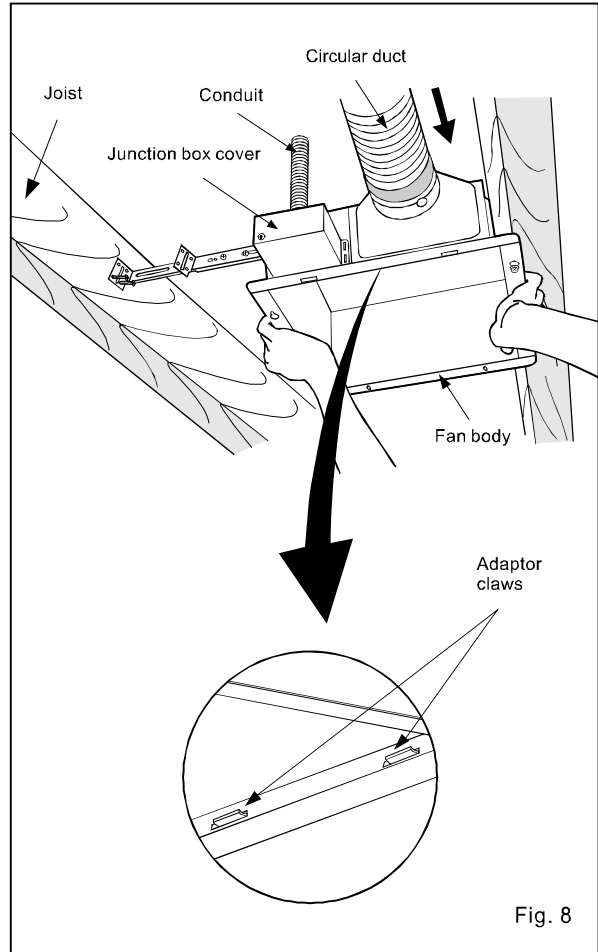

Fig. 8
5. Insert the fan body into joists. (Fig. 8)